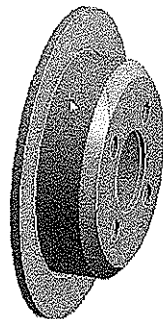

Figure 11-17 Face selected
8. Choose the **Face** tool from the **Select** toolbar and then select the cylindrical face of the model, as shown in Figure 11-17.